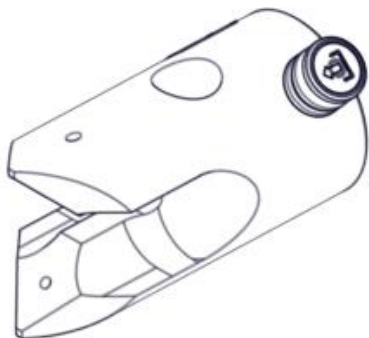

Figure 1-4.
a. **Multi-Base.** The Multi-Base (Figure 1-4) is a 3" (7.6 cm) diameter cylinder base with a claw-like wedge with slot for 3/8" chain. The 90 degree "V" end slot with two cross drilled holes for nails to secure to a corner or edge. Either of the two arms in a shape of a cone provide additional point loaded applications.